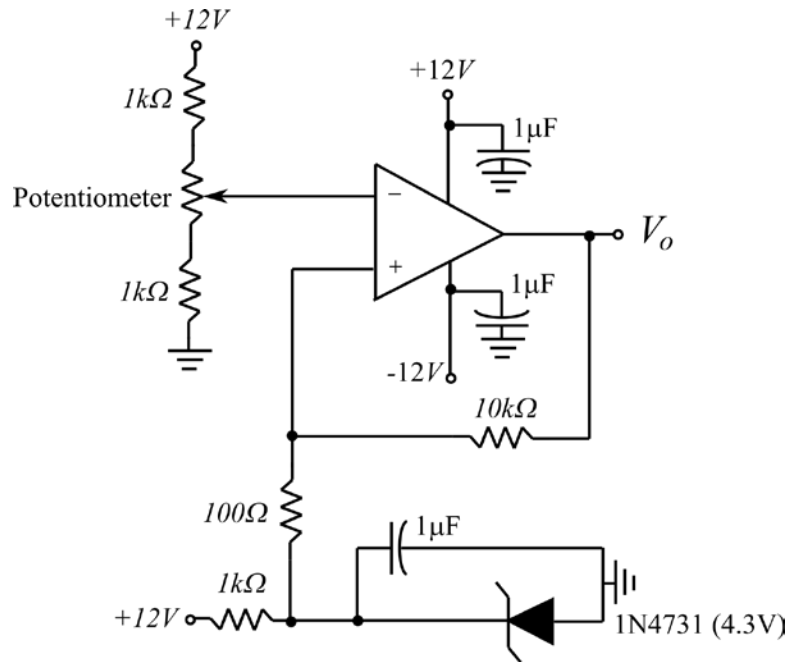

Figure 5: Inverting Schmitt Trigger test circuit.
5. With the power off, construct the Schmitt trigger circuit of Figure 5. Use the input potentiometer as you did in Step 3 while monitoring the output. You should see clean switching unless you have a worn pot with discontinuous spots across its range.